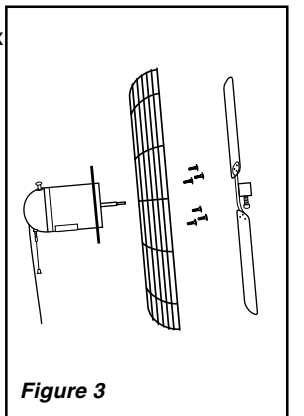

Figure 3
2. Locate the wall or ceiling stud nearest to the desired Fan location. Attach the Bracket to the stud using (3) 5/16" diameter x 2" long Lag Screws or appropriately sized Bolts and Nuts if attaching to "I" beams.
7. Put rear grill onto motor, Lining up the six holes in the grill with the six threaded holes in the mounting flange. Install six 10-32 x 5/16 hex bolts through the grill into the mounting flange. Securely tighten all bolts. (Figure 3)
8. Push Fan Blade onto Motor Shaft, center Hub facing away from Motor, until it stops against Shaft. **Align Bolt Head Set Screw with Flat of the Motor Shaft. TIGHTEN VERY SECURELY WITH AN ADJUSTABLE WRENCH.** Failure to securely tighten Set Screw could result in damage to the Fan and/or personal injury. (Figure 3)